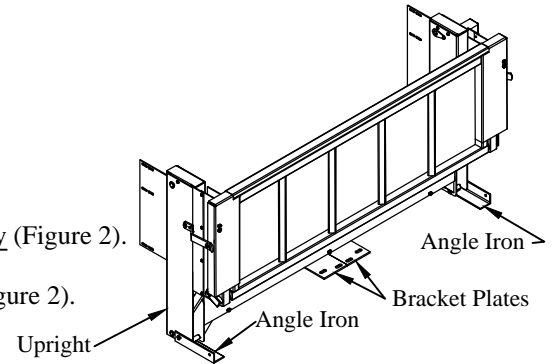

Figure 2: Complete liftgate (G² shown).
4. **Unbolt** and **Save** the two (2) angle irons attached to the liftgate uprights- **G² only** (Figure 2).
5. **Remove** and **Save** the two (2) bracket plates attached to the liftgate- **G² only** (Figure 2).